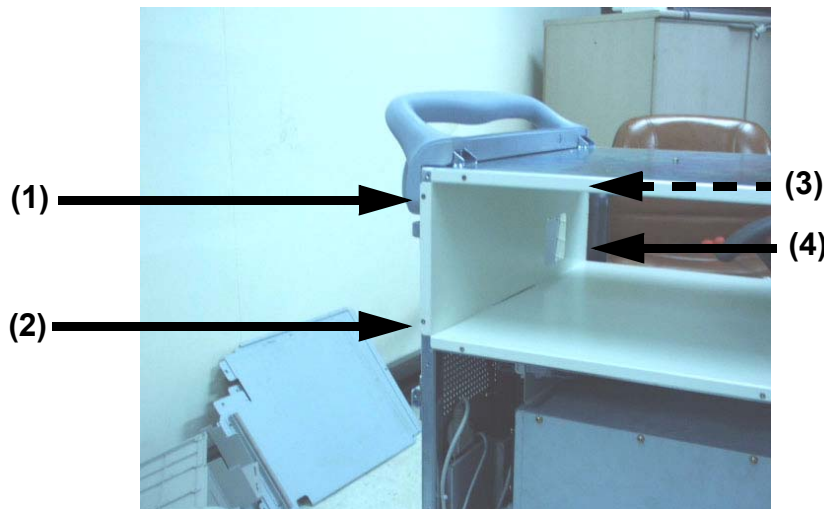

Figure 8-70 Removing the Peri Rear Bracket
- 5.) Unscrew four (4) screws (1-4) to remove peri rear bracket. Refer to Figure 8-70 on page 8-54 .